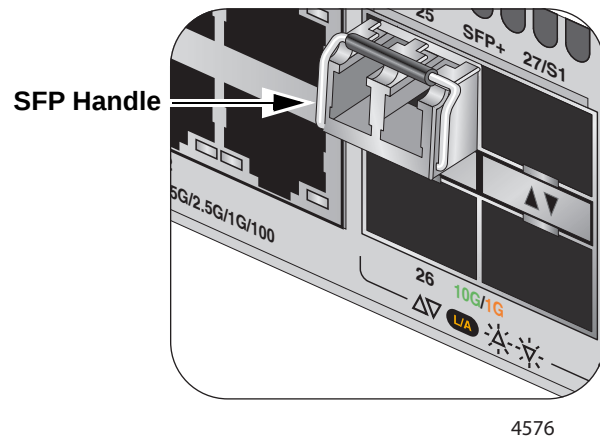

Figure 78. Positioning the SFP or SFP+ Handle in the Upright Position
5. Verify the position of the handle on the transceiver. If the transceiver is in a top port, the handle must be in the upright position, as shown in Figure 78. If the transceiver is in a bottom port, the handle must be in the down position.